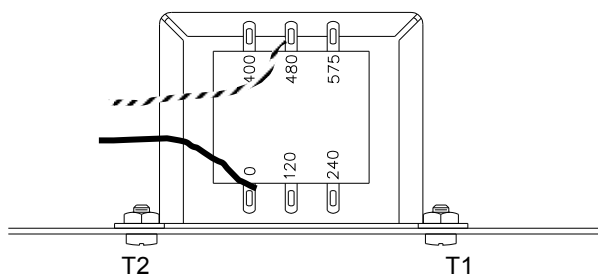

Figure 3.3 T1 Transformer Connections
1. Open the SCR power controller, and locate transformer T1. The primary side of T1 transformer will contain two wires (one black, the other white and black). Refer to figure 3.3.